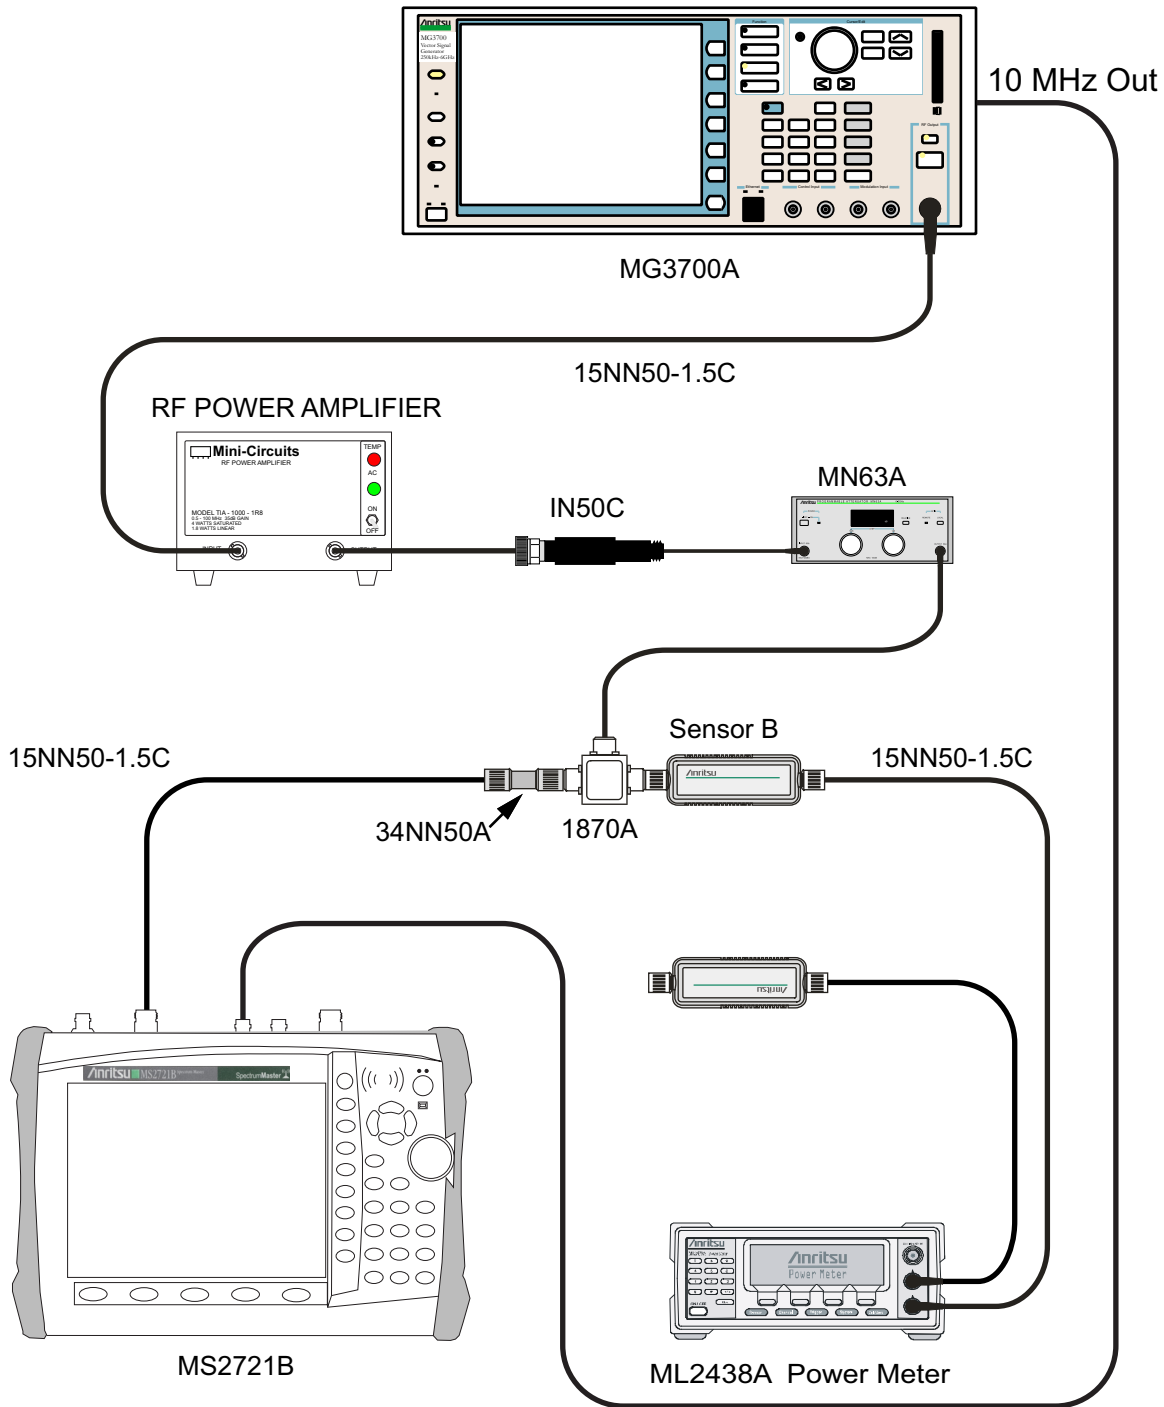

Figure 3-22. DVB-T/H Option 64 and Option 57 – Level Accuracy Verification – Sensor B Only
26. Remove Sensor A from the Power Splitter, and then connect the Power Splitter to the MS2721B Spectrum Analyzer RF In port with an N(m)-to-N(m) adapter, as shown in Figure 3-22.
61. Remove Sensor A from the Power Splitter, and then connect the Power Splitter to the MS2721B Spectrum Analyzer RF In port with an N(m)-to-N(m) adapter, as shown in Figure 3-22, “DVB-T/H Option 64 and Option 57 – Level Accuracy Verification – Sensor B Only” on page 3-82.